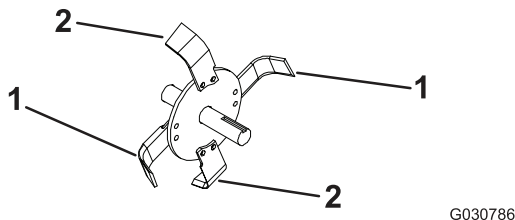

Figure 3
- Install tines so that there are 2 left tines and 2 right tines on each hub (Figure 3).